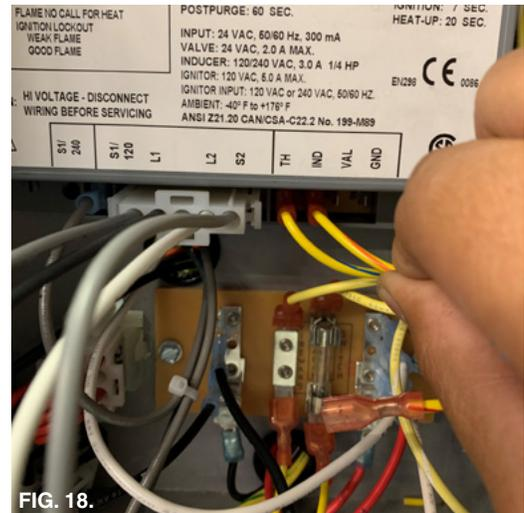

FIG. 18.
14. Connect the Blower assembly. (Fig. 18).
14. Connect the Orange/Yellow wire to IND ¼" tab at ICM. (Fig. 18)